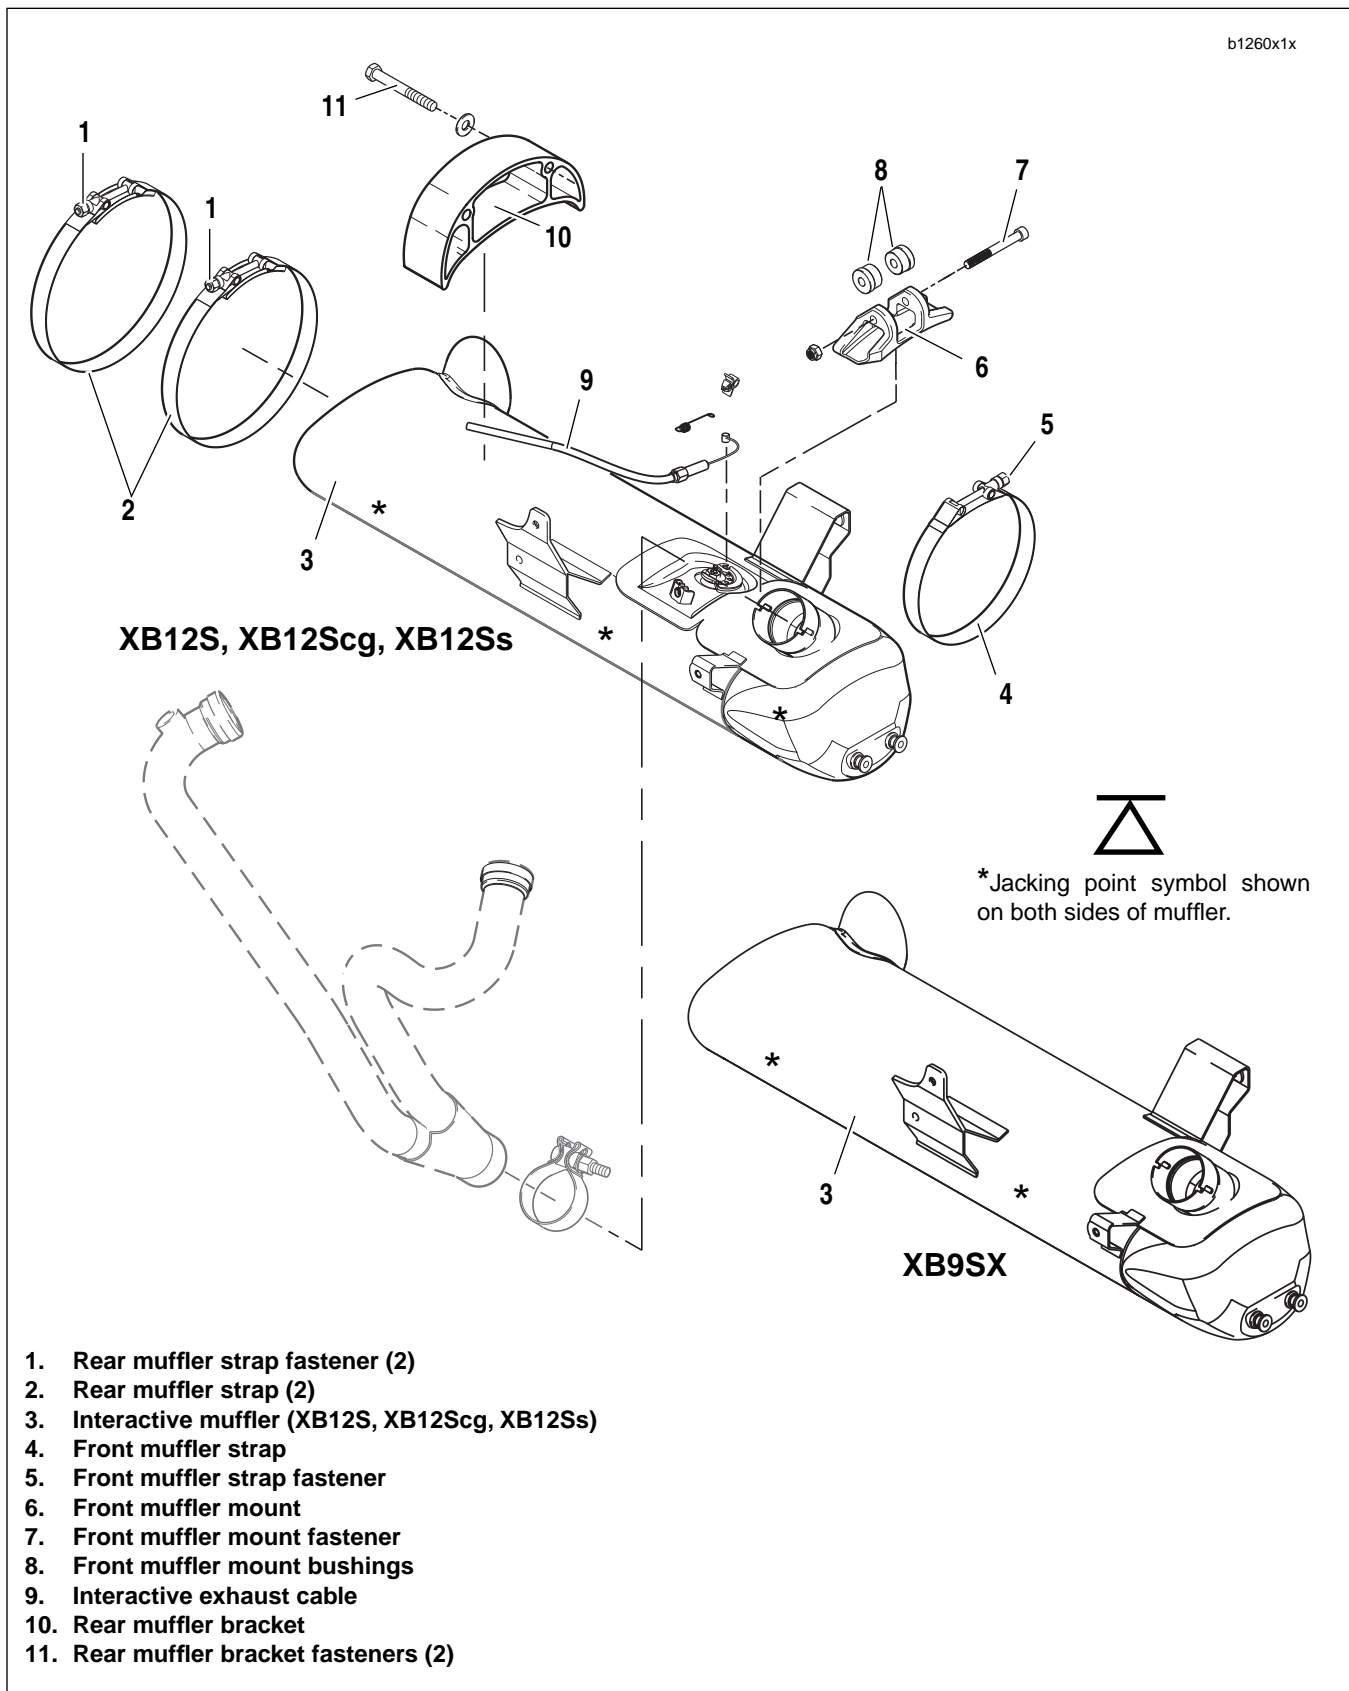

Figure 2-112. Muffer Assembly
4. See Figure 2-112. Loosen front muffler mount fastener (7) but do not remove.
- a. **Front:** Remove front muffler strap fastener (5).
- b. **Rear:** Alternately loosen rear strap fasteners (1) and remove straps (2).
2. See Figure 2-112. Remove front muffler mount fastener (7).
3. Remove strap (4) from front muffler mount (6).
4. Remove front muffler mount bushings (8) by punching out with suitable tool.
4. See Figure 2-112. Remove rear muffler bracket fasteners (11).
5. Slide oil line from rear muffler bracket and remove rear muffler bracket (10).
1. See Figure 2-112. Slide rear muffler bracket (10) over oil line.
2. Install rear muffler bracket fasteners (11) and tighten to 32-36 ft-lbs (43-49 Nm).
1. See Figure 2-112. Install front muffler mount bushings (8).
2. Install **new** strap on front muffler mount (6).
3. Install front fastener (7) loosely. **Do not tighten.**
2. See Figure 2-112. Loosely install **new** front and rear muffler straps (2, 4).